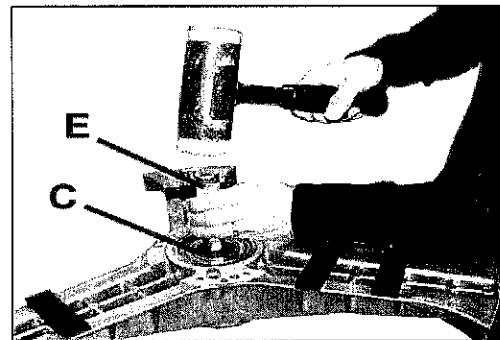

fig. 10
- Remove the rear bearing and the bearing end-piece by tapping from the inside of the bearing box with the help of tools C and E. (fig. 10).